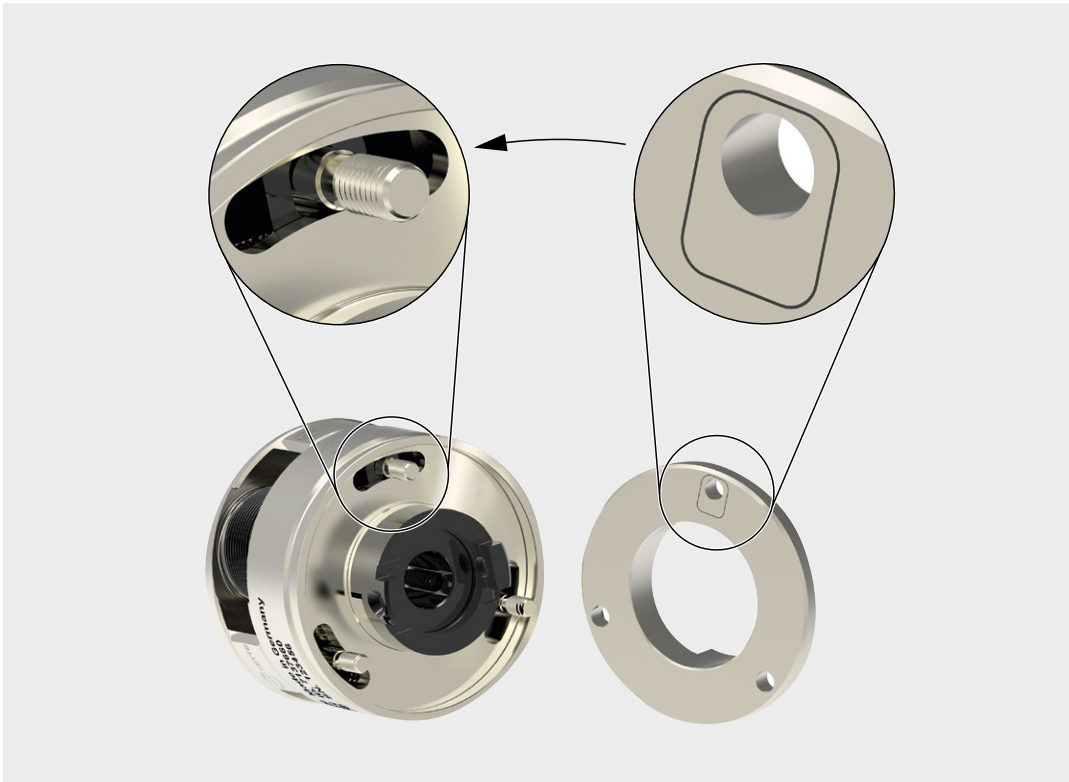

Fig. 26: Installation of the supplied chip guard *with the integrated stop*
7. Place the supplied chip guard with the integrated stop on the *rolling head*. Pay attention to the marks on the chip guard. The planar surface has the contour of the slide block at one hole. Set the chip guard with the marked hole – with the planar surface facing forward – on the spacer bolts with the slide block (see Fig. 26).